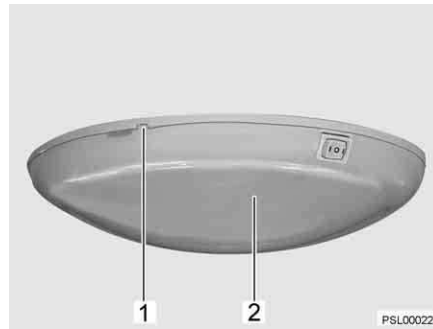

Fig. 74 Ceiling lamp
- Use a suitable tool (e.g. a screwdriver) to carefully lever out the cover (Fig. 74,2) at the notch (Fig. 74,1) and remove it.